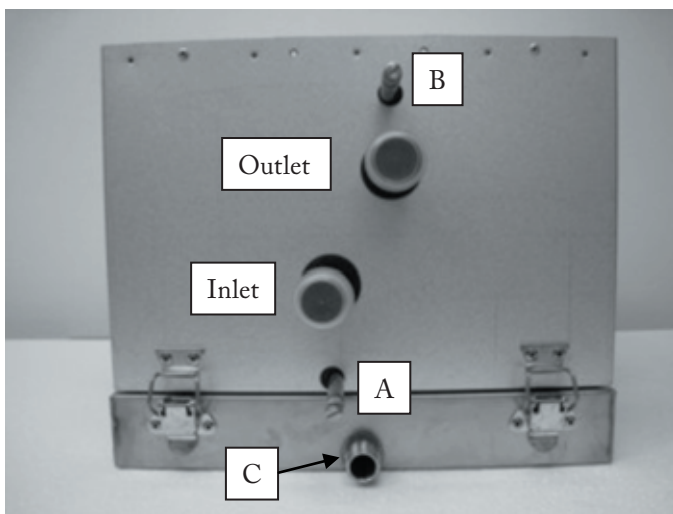

Figure 1
The condensate outlet (C in Figure 1) should be connected across a water trap in order to avoid air leakage. N.B. The size of the outlet should be such that no water will remain in the drip tray. When the drip tray is to be removed, ensure that the condensate outlet is easy to disconnect.
3. The water inlet must be connected to the lower pipe (marked Inlet in Figure 1) and the outlet to the upper pipe (marked Outlet in Figure 1). The inlet is provided with a drain connection (A in Figure 1) and the outlet with an air purging connection (B in Figure 1).
5. The cooling coil can be drained of water through the drain connection (marked A in Figure 1).